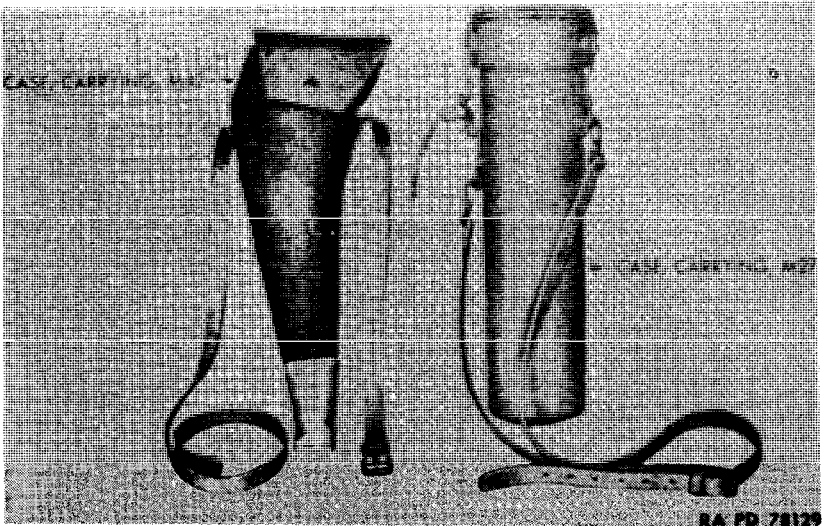

Figure 7 -Carrying Case M27 for Observation Telescope M49 and Carrying Case M42 for Tripod M15
a. Carrying Case M27 (fig. 7) is used for transporting Observation Telescope M49 and affords protection for the telescope when the latter is not in use. It is an all-leather case, lined with a felt-like padding. It measures approximately 4 inches across and is 15 inches long. The Telescope M49 fits into the case with the front end down, making
a. Carrying Case M42 is provided for transporting the Tripod M15 (fig. 7) and for storing it when not in use. This carrying case is of canvas construction with leather reinforcements. Snap fasteners are used to secure the cover flaps. Leather shoulder straps provide a convenient means for carrying the case and its contents.